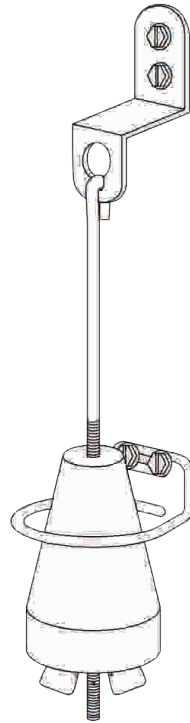

Fig. 9 Assembling plumb bob tilt mechanism
15. Locate the plumb bob weight, tilt hanger, and wing nut from the loose parts (Fig. 9).
16. Hang the tilt hanger from the contact bracket mounted on the lower left inside wall of the cabinet body (Fig. 9). Then slide the weight onto the straight end of the hanger wire and thread the wing nut onto the shaft underneath it (Fig. 9).